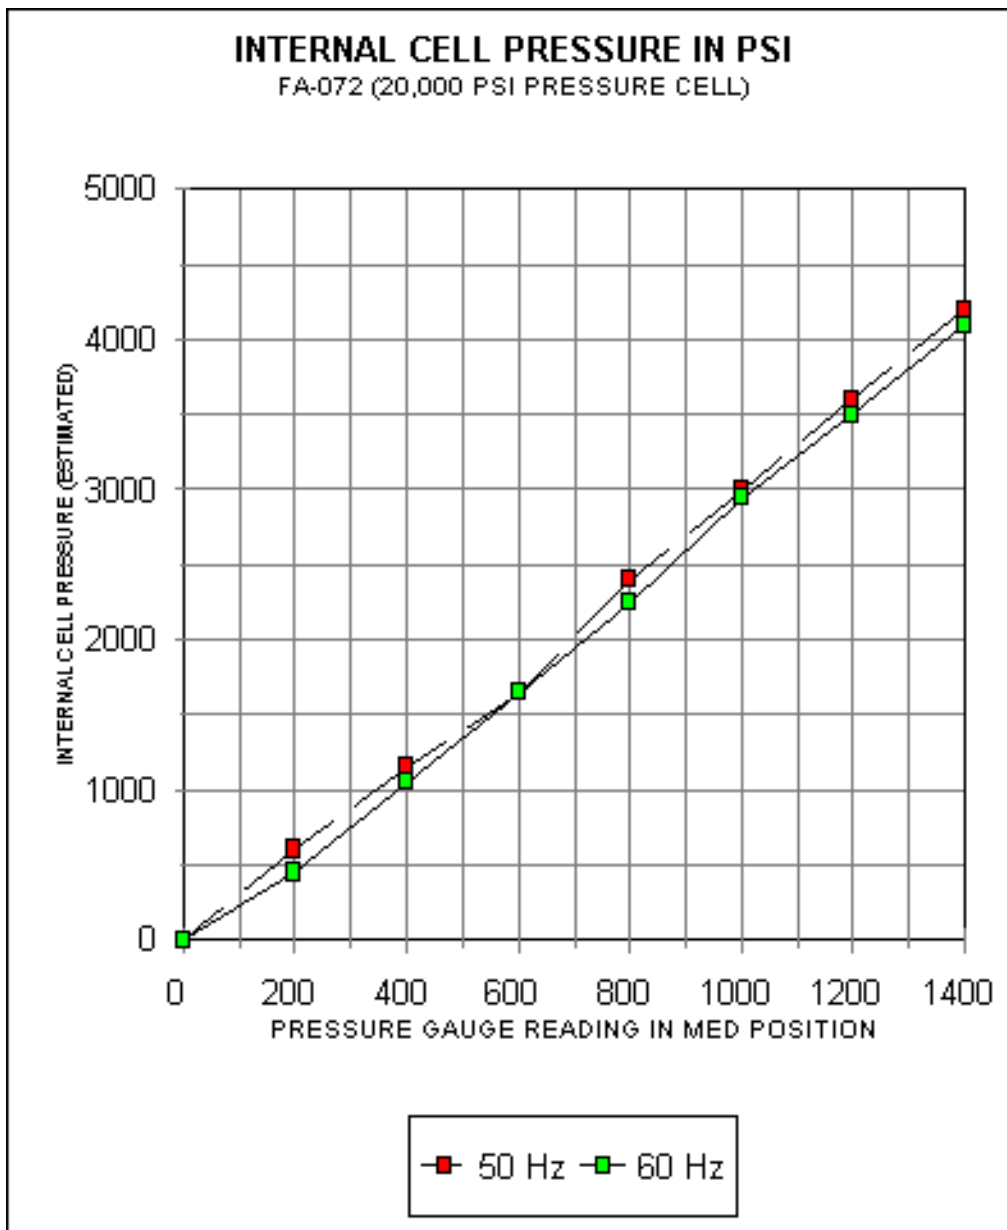

Figure 6
**For your convenience, the relationship between the gauge pressure and cell pressure is shown graphically in greater detail in Figures 6 and 7.**